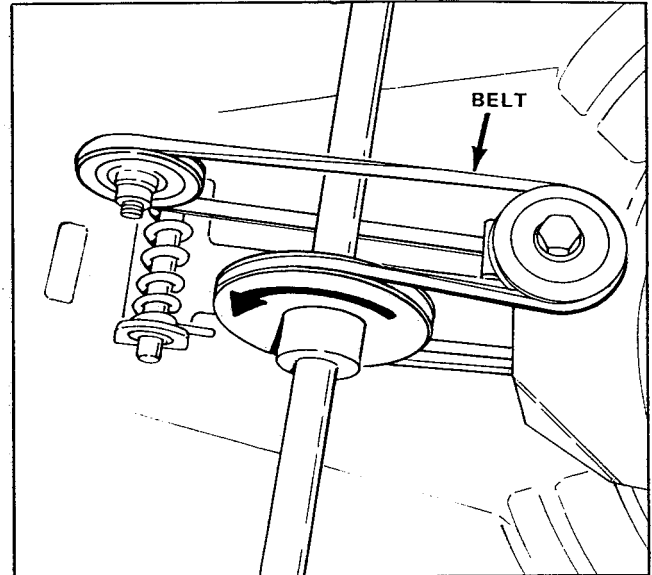

Figure 23. Belt Installation
8. Run the belt under the shaft pulley and idler pulley, then around to the top horizontal pulley. Make certain that the belt is properly installed, as in figure 23.